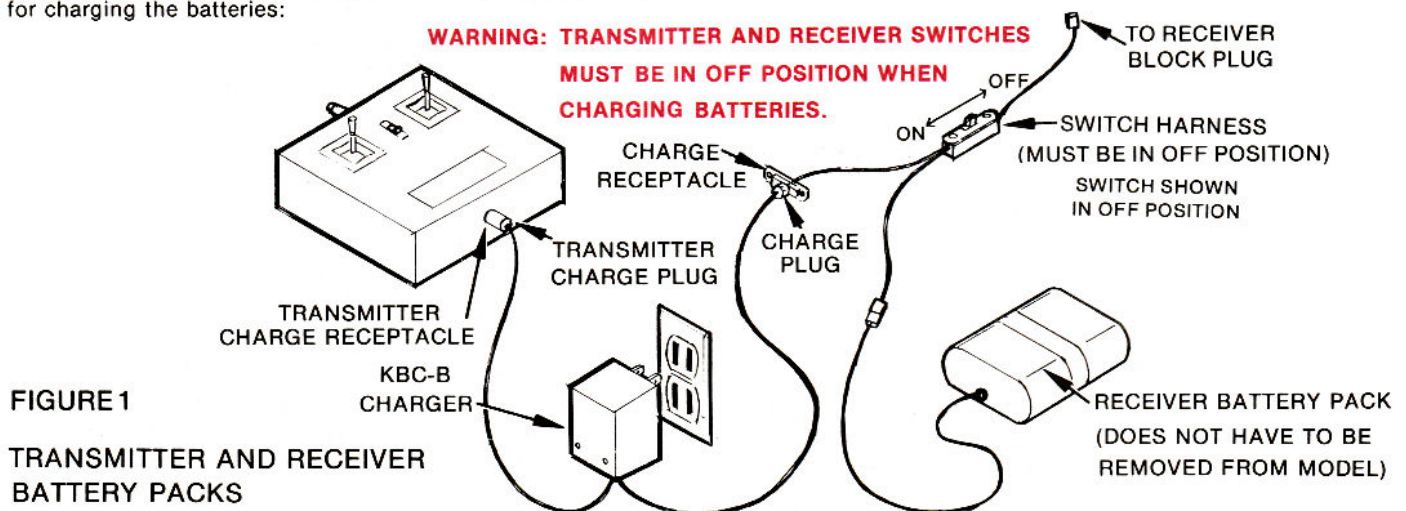

FIGURE 1
4. The transmitter and receiver battery packs may be charged simultaneously or independently. It is not necessary to remove the battery pack from your model. Charge as follows (Fig. 1):